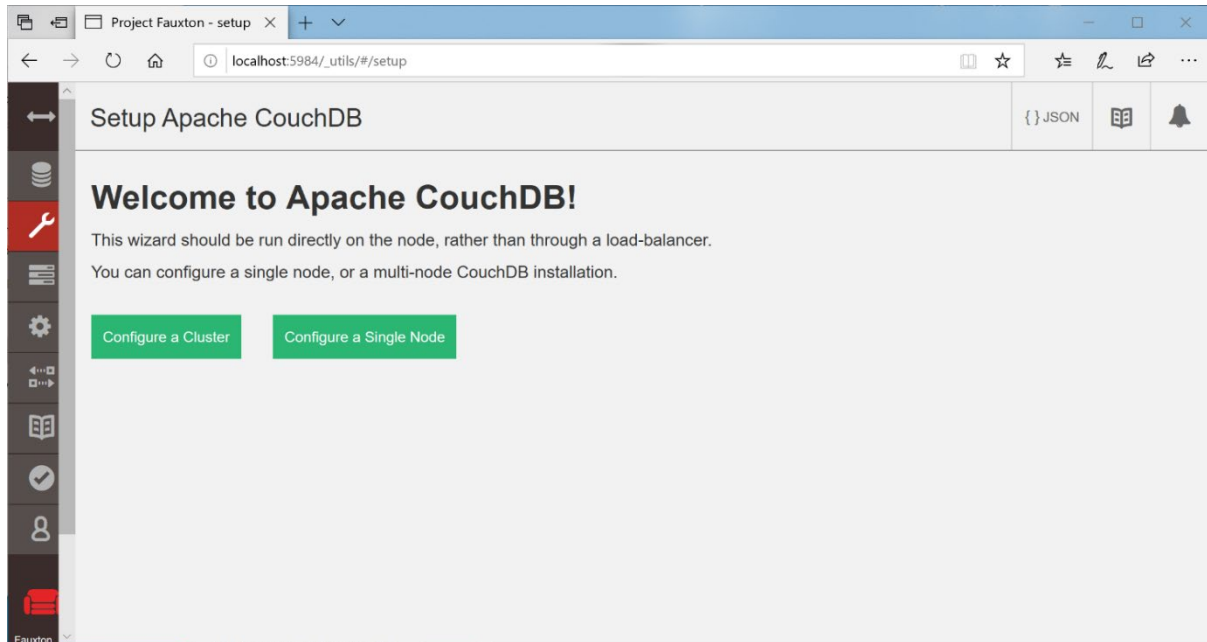

Figure 4-4 Configuring Single Node
- d. Now configure as a single node (see Figure 4-4).